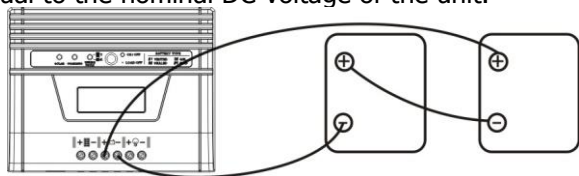

Fig. 5
- 1) Multiple batteries in series connection (Refer to Fig. 5):** All batteries must be equal in voltage and amp hour capacity. The sum of their voltages must be equal to the nominal DC Voltage of the unit.